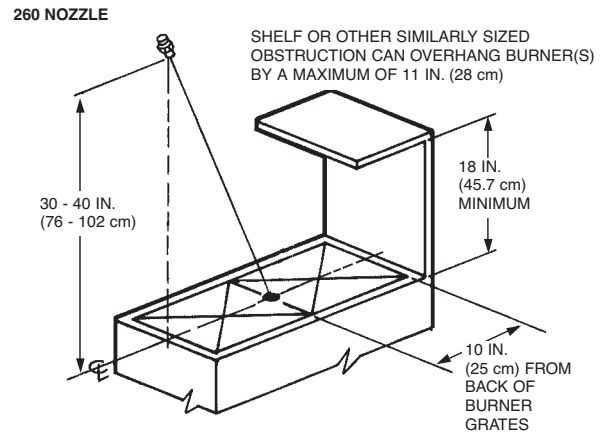

FIGURE 38
- When using the 260 nozzle for range protection with or without back shelf or other similarly sized obstruction, the maximum length of burner grates being protected must not exceed 32 in. (81 cm) and the maximum area of the burner grates must not exceed 384 in.² (2477 cm²). Nozzle must be located on the front edge of the burner grates and aimed at a point 10 in. (25 cm) from the back edge of the burner grates. Nozzle must be mounted 30 to 40 in. (76 to 102 cm) above the hazard surface. See Figure 38.